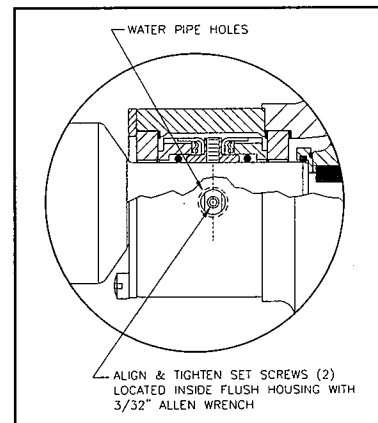

Figure 13: Tightening of the two set screws on the seal driver.
Install the four housing bolts (34) through the flange adapter (32) into the pump housing (10). Tighten with the 9/16" wrench to 30 ft.-lb. Next tighten the two set screws on the seal driver (25) which are located inside the seal flush housing (26). This is done by rotating the shaft (30) so that the set screws are in line with the hole in the seal flush housing where the water pipes (27) were removed. Then place the 3/32" Allen wrench through the hole and tighten the set screws (approx. 0.4 ft.-lb./5 in.-lb.) (**Figure 13**).